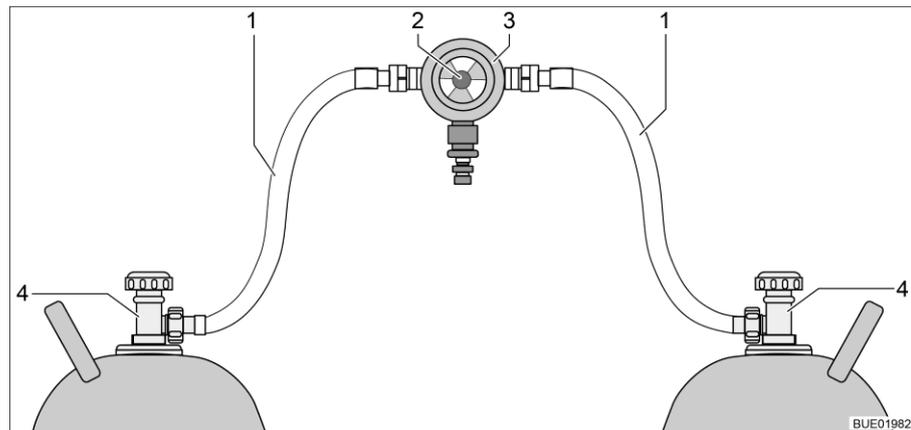
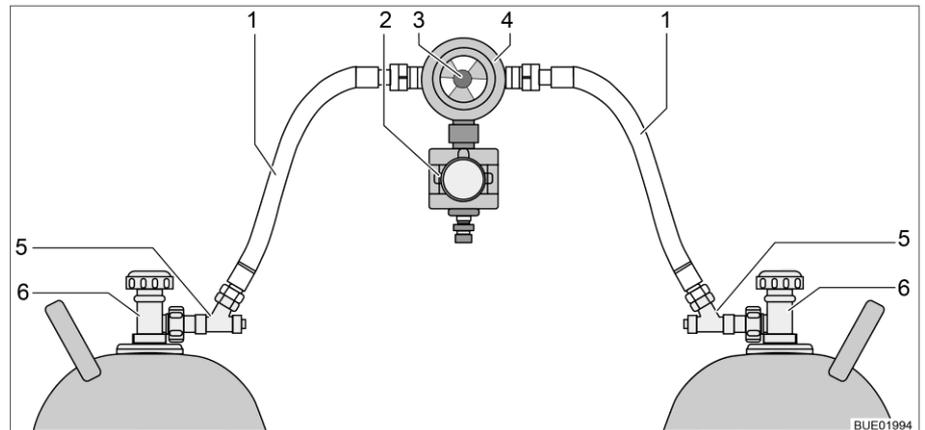

Fig. 194 Gas bottle switching facility
Fig. 195 Gas bottle switching facility with CPU
The gas bottle switching facility consists of a combined gas pressure regulator with reversing valve and indicator (Fig. 194,3). The gas bottle switching facility is installed between the two gas tubes (Fig. 194,1).
The gas bottle switching facility consists of a combined gas pressure regulator with reversing valve and indicator (Fig. 195,4), and an electrovalve (Fig. 195,2). The electrovalve blocks the gas supply to the vehicle in the event of a full braking, an accident, or an unusually great inclined position. The gas bottle switching facility is installed between the two gas tubes (Fig. 195,1) with hose break guards (Fig. 195,5).
Use the knob (Fig. 194,2 or Fig. 195,3) on the gas bottle switching facility to select which of the gas bottles is to be used as a primary bottle and which is to be used as a reserve bottle.
Only the electrical functions can be switched at the operating unit (Fig. 196). The regulator taps on the gas bottles (Fig. 194,4 or Fig. 195,6) must be opened and closed manually.
- Open the regulator taps of the gas bottles (Fig. 194,4 or Fig. 195,6).
- Press the hose break guards (Fig. 195,5) successively for 10 seconds.
- Use the knob (Fig. 194,2 or Fig. 195,3) on the switching facility to select the gas bottle which is to be the primary source of gas (primary bottle). Always turn the knob as far as it will go.
- Close the regulator taps of the gas bottles (Fig. 194,4 or Fig. 195,6).